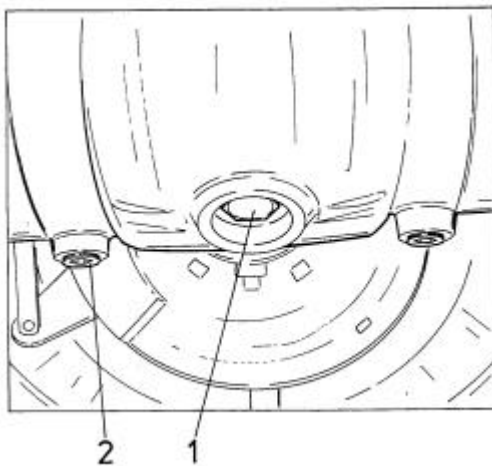

Fig. 5.15. Axle Drain and Brake Inspection Plugs
5.9.3. CHANGING THE OIL (Fig. 5.15)